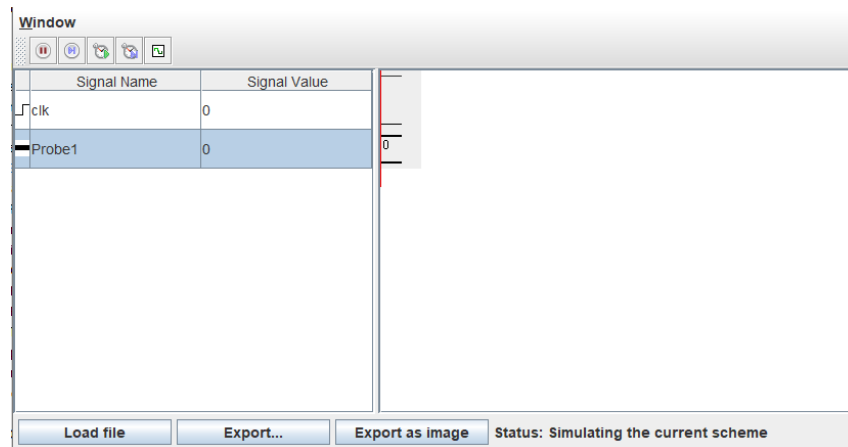

Figure 6.10: Chronogram Starting
10. Click *Start Chronogram* and the screen illustrated in Figure 6.10 pops up.